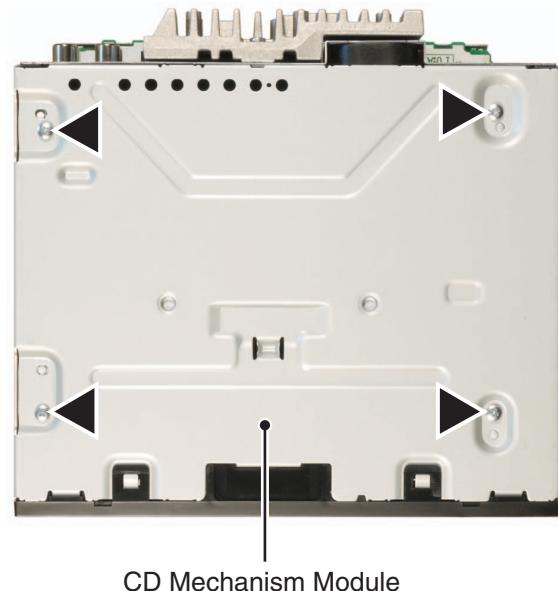

Fig.4
● Attention of removing (Fig.4)
5. Lift the PU unit to disengage it from Part B of the chassis (Fig 4), and remove the PU unit.
- (Cautions) When re-installing the PU, be sure to first nip the chassis and the PU unit (Fig 4) at the position B.